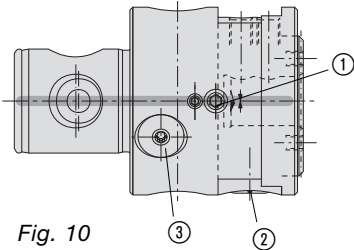

Fig. 10
**Clamping (Fig. 10)**
**Diameter adjustment (Fig. 10)**
Comply with the following sequence when adjusting the diameter (Fig. 10):
**Battery changing (Fig. 10)**
**VARTA V392 SR 41 Silver oxide / Zinc / KOH-Electrolyte.** Only these batteries have been tested in relation to the high centrifugal forces involved. To change the batteries, open the battery compartment ③ (Figure 10). Use a Torx T 20 service key to open the unit, remove the old batteries and dispose of them correctly. Close the battery compartment again carefully.